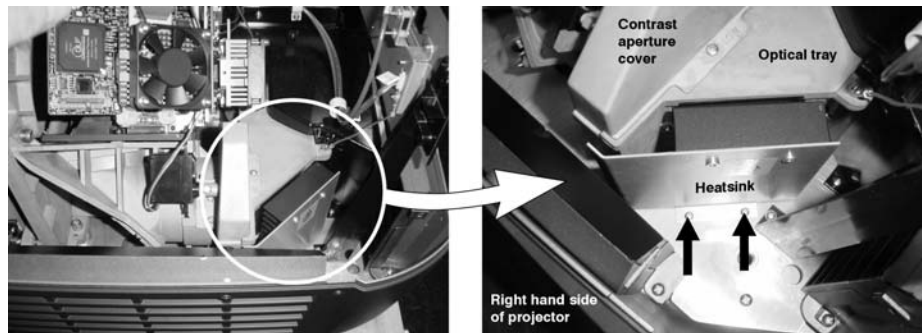

Figure 10. Removing the Cold Mirror Heat Sink
2. Remove the two (2) screws securing the heat sink to the bottom chassis. (Figure 10.)